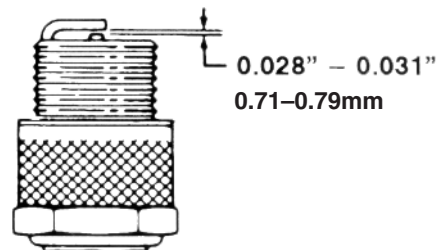

Figure 26
3. Set the air gap at 0.71–0.79mm (0.028”–0.031”) (Fig. 26). Install the correctly-gapped spark plug and tighten it firmly to 27 Nm (20 ft-lb.)